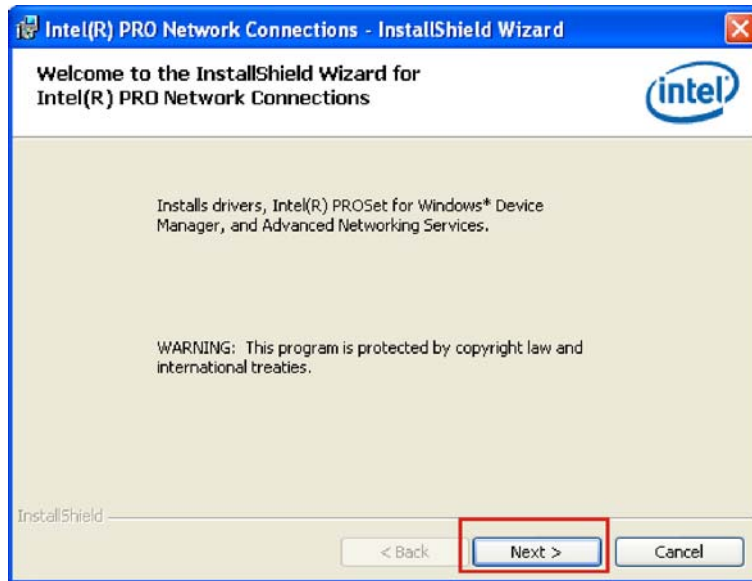

Figure 6-16: LAN Driver Welcome Screen
Step 4: The welcome screen appears (**Figure 6-16**).